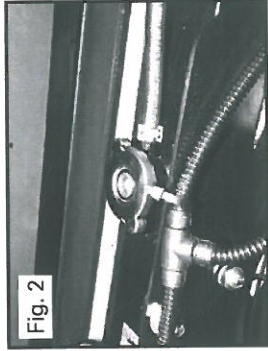

Fig. 2
- Top up at radiator cap if necessary (Fig 2).